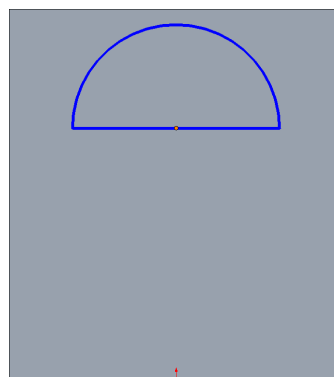

Fig. 28
Step 9. Sketch a centerpoint arc across line on top side of line. Start centerpoint of arc at midpoint, **Fig. 28**.